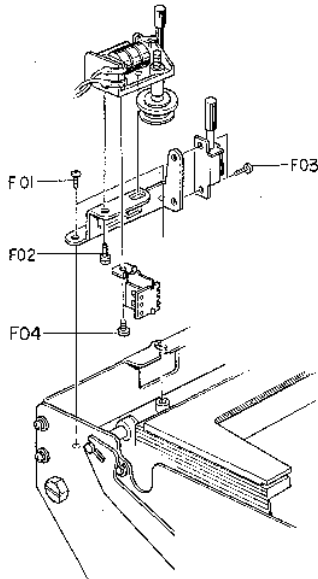
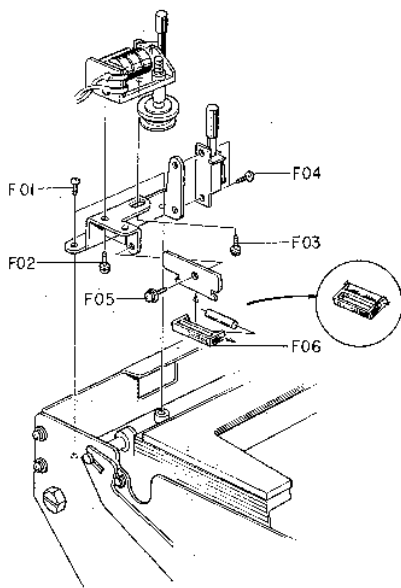

Fig. 3.7 Serial No. A206.7 05001 and greater
Fig. 3.8 Up to serial No. A206.7 05000
(1) Hall IC System
Refer to Fig. 3.7. Remove front panel ass'y referring to item 3.5. Remove F01 through F04, then counter ass'y, memory switch and hall IC P.C.B. ass'y.
(2) Reed Switch System
Refer to Fig. 3.8. Remove front panel ass'y referring to item 3.5. Remove F01 through F06, then counter ass'y, memory switch and reed switch.